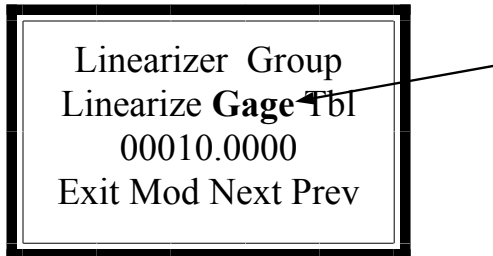

Figure 11b: Selecting the Linearize Gage Table.
3) Select the Linearize **Gage** Tbl. Press the MODify key. Figure 11b.